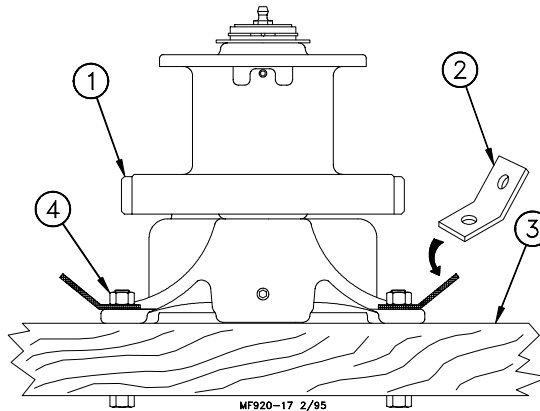

Figure 30. Assembling the Power Winch to the Rafters
- Bolt the Power Winch, fully assembled, to a 2"x8" (50x200 mm) board that will span at least 3 rafters, using 5/16-18 hardware supplied in the Hardware Package. The brake mechanism will extend toward one side. Install a Cable Hook, supplied in Hardware Package, between the mounting bolt and Power Winch frame, as shown in Figure 30.